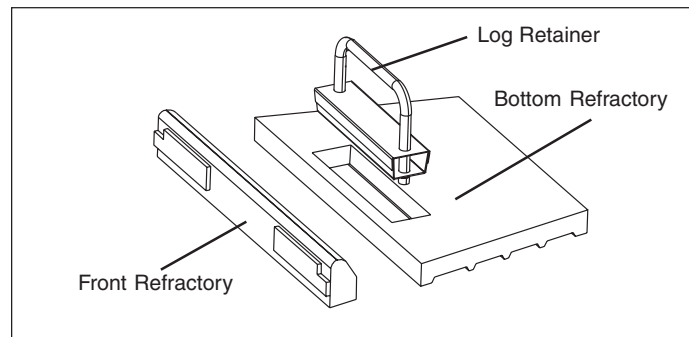

FIGURE 3 - Front, Bottom Refractory
Step 2. Remove the Bottom Refractory by lifting and sliding it forward enough to clear the Front Refractory (see Figure 3). Carefully lift the Bottom Refractory using both hands around its edges to provide a good support. Do not lift out of the fireplace by the rectangular opening as this may cause breakage. Remove the Front refractory (see Figure 4).